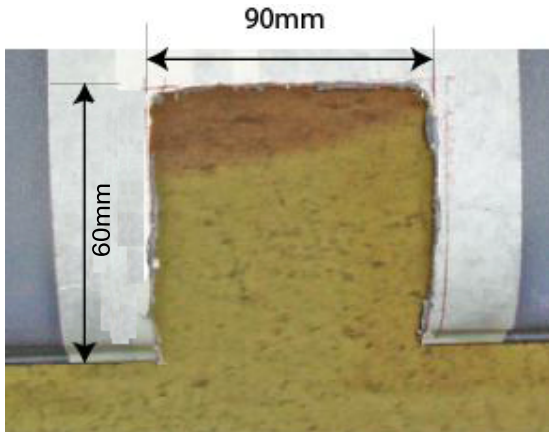

Figure 11 – Bumper cut illustration.
13. Cut the bumper, as per the illustrations provided in Figure 11.